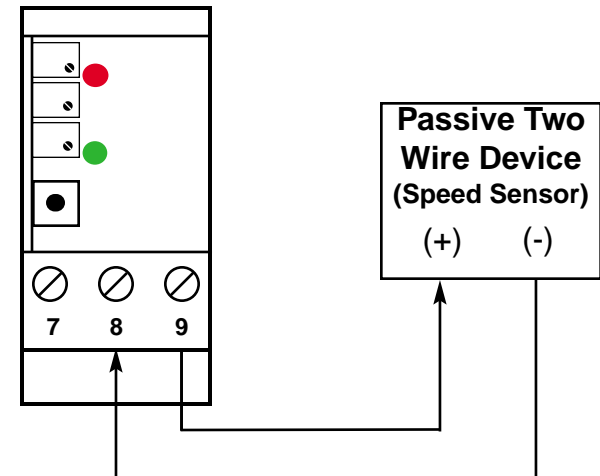

Figure 2
**Example:** In this application, a Speed Sensor requiring external power to generate an output is used in conjunction with an API module to optimize a process. By utilizing the 12 Volt Loop Excitation Source of the API module, an additional external power supply may be eliminated resulting in a reduction to your system cost and wiring. The Speed Sensor shown in Fig. 2 requires two connections. The first (typically labeled Positive(+) or Power) should be wired to Terminal 9 of the unit. The second (typically labeled Negative(-) or Signal) should be wired to Terminal 8 of the unit. No connection to Terminal 7 is necessary.